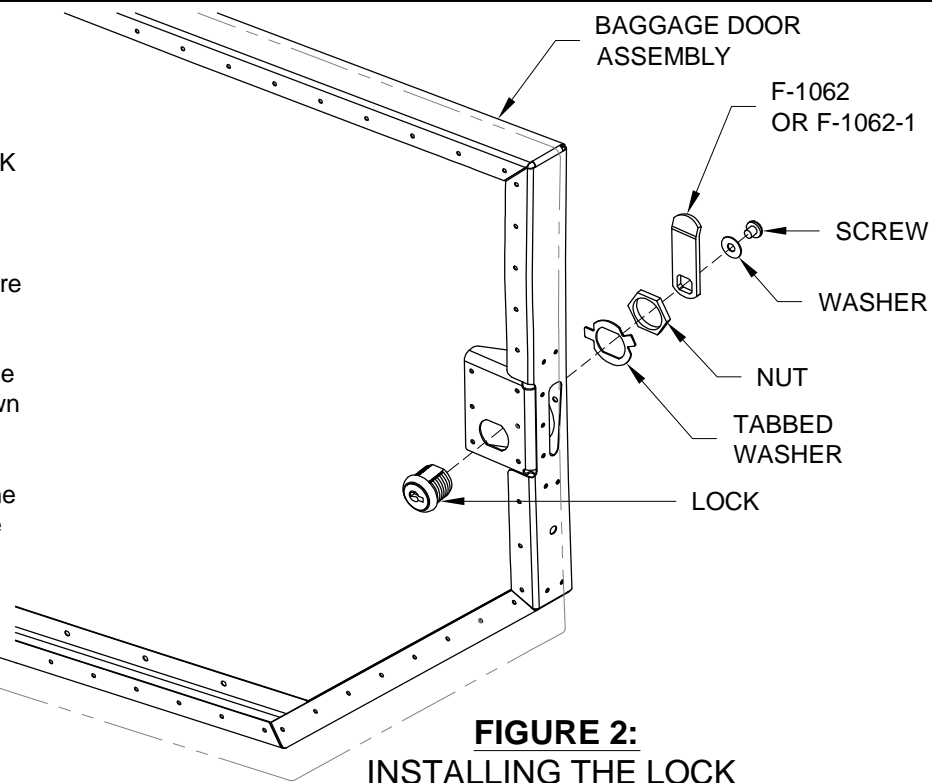

FIGURE 2: INSTALLING THE LOCK
Step 8: Install the Lock and the F-1062 Lock Latch as shown in Figure 2. (The lock and hardware, which is included with the ES A-510-2K Magneto Switch, is not supplied in the kit. They can be ordered from the Van's Accessories Catalog.) Be sure to install the lock in the Baggage Door Assembly so that a clockwise rotation of the key will lock the door as shown in Figures 3 and 4. Once the nut for the lock is tightened, bend up one of the tabs on the tabbed washer to prevent the nut from rotating. To prevent the screw from backing out, apply Locktite to the threads.